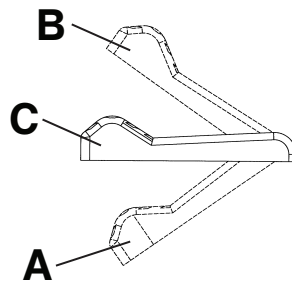

Figure 1 – Brake pedal
To apply the brakes, push down on the brake/steer pedal (A) (Figure 1). Push on the product to make sure that the brakes work.